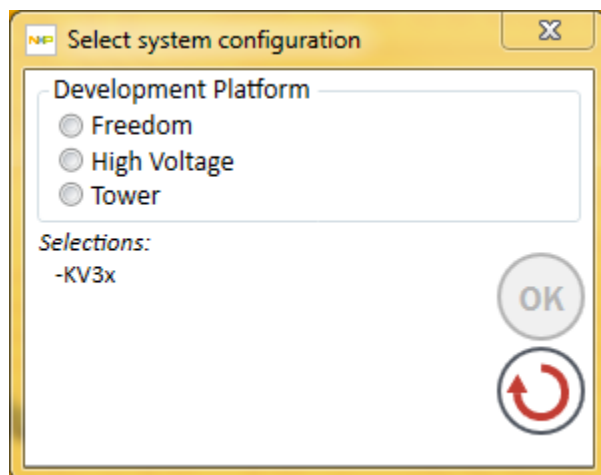

Figure 16. Select development platform
2. Select the development platform being utilized (Figure 16).